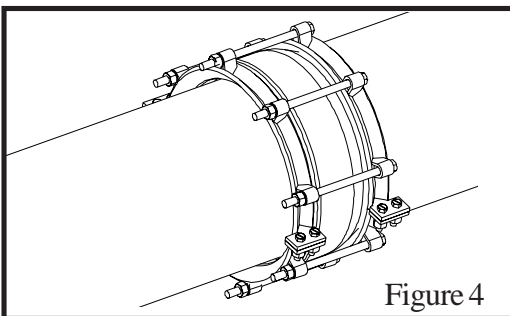

Figure 4
- Install bolts and nuts hand tight being sure that all components are in alignment. Nuts should be located on spigot end. (See Figure 4)
- Install bolts and nuts in loops, hand tighten. Be sure that all components are in alignment. Nuts should be located on spigot end. (See Figure 4)